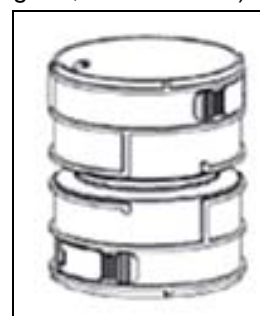

Figure 2 – Coupling
4. When required, a coupling (Fig. 2) can also be used to connect two lengths of flexible liner together. This piece can be ordered as an accessory (Part #8400P-005).